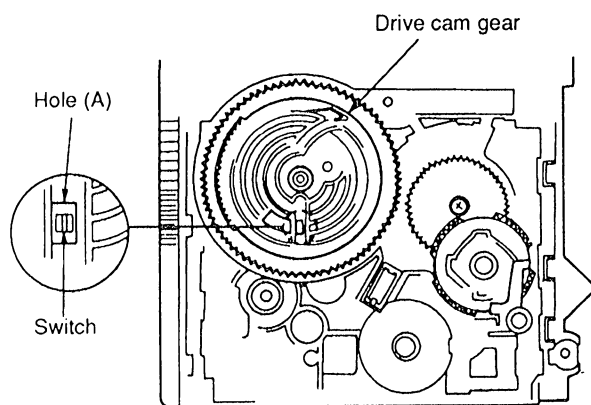

Fig.4
7. Align the hole (A) of the drive cam gear with the switch, and then insert the drive cam gear. (See Fig. 4)
**Note:** In case that the drive cam gear is inserted into the holes except the hole (A) of the drive cam gear, the switch may be damaged.